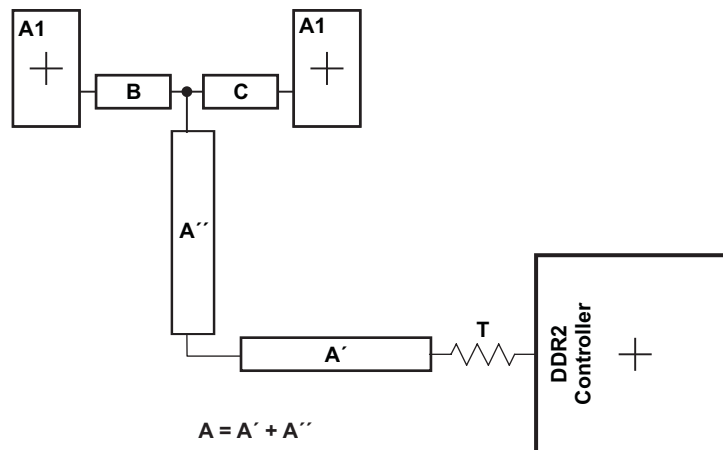

Figure 8-52. CK and ADDR_CTRL Routing and Topology
Figure 8-52 shows the topology of the routing for the CK and ADDR_CTRL net classes. The route is a balanced T as it is intended that the length of segments B and C be equal. In addition, the length of A ($A' + A''$) should be maximized.
(1) The length of segment A = A' + A'' as shown in Figure 8-52.
(2) Series terminator, if used, should be located closest to the DSP.
(3) Center-to-center spacing is allowed to fall to minimum (w) for up to 500 mils of routed length to accommodate BGA escape and routing congestion.
(4) CACLM is the longest Manhattan distance of the CK and ADDR_CTRL net classes.